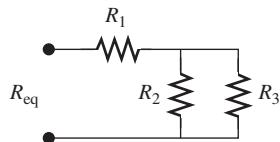

FIGURE P3.4 Circuit for Problem 3.4.
- 3.4 (B) Find R_{eq} in terms of R_1 , R_2 , R_3 in Figure P3.4.